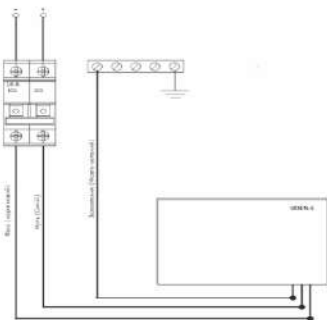

Fig. 2. Scheme of connection of panels with remote control
7.2.4 Connect the wires and cables according to the scheme shown in **Fig. 2**. Close the contact protective cover.